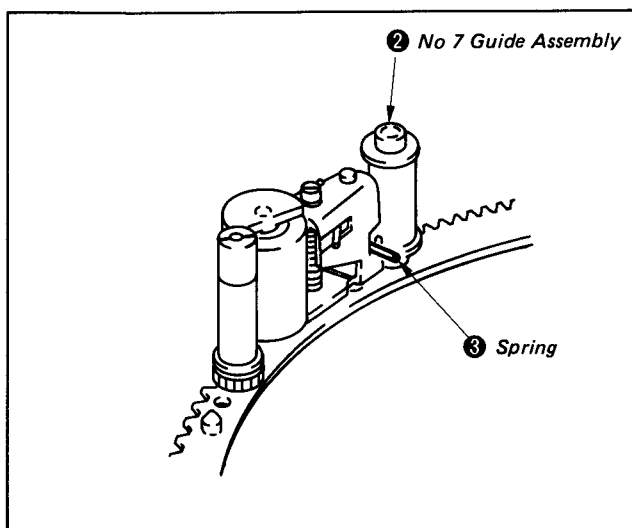

Fig. 1-18
- 3) Change the hooking position of the spring ③ on the No. 7 guide assembly ②. (See Fig. 1-18.)